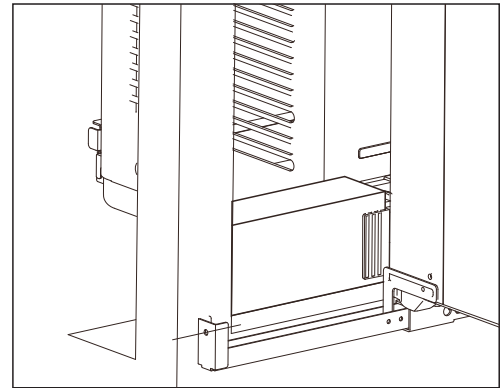

Fig.8
**C.** Cut the Sealed sponge to proper length for sealing the space between the window and unit. See Fig.8